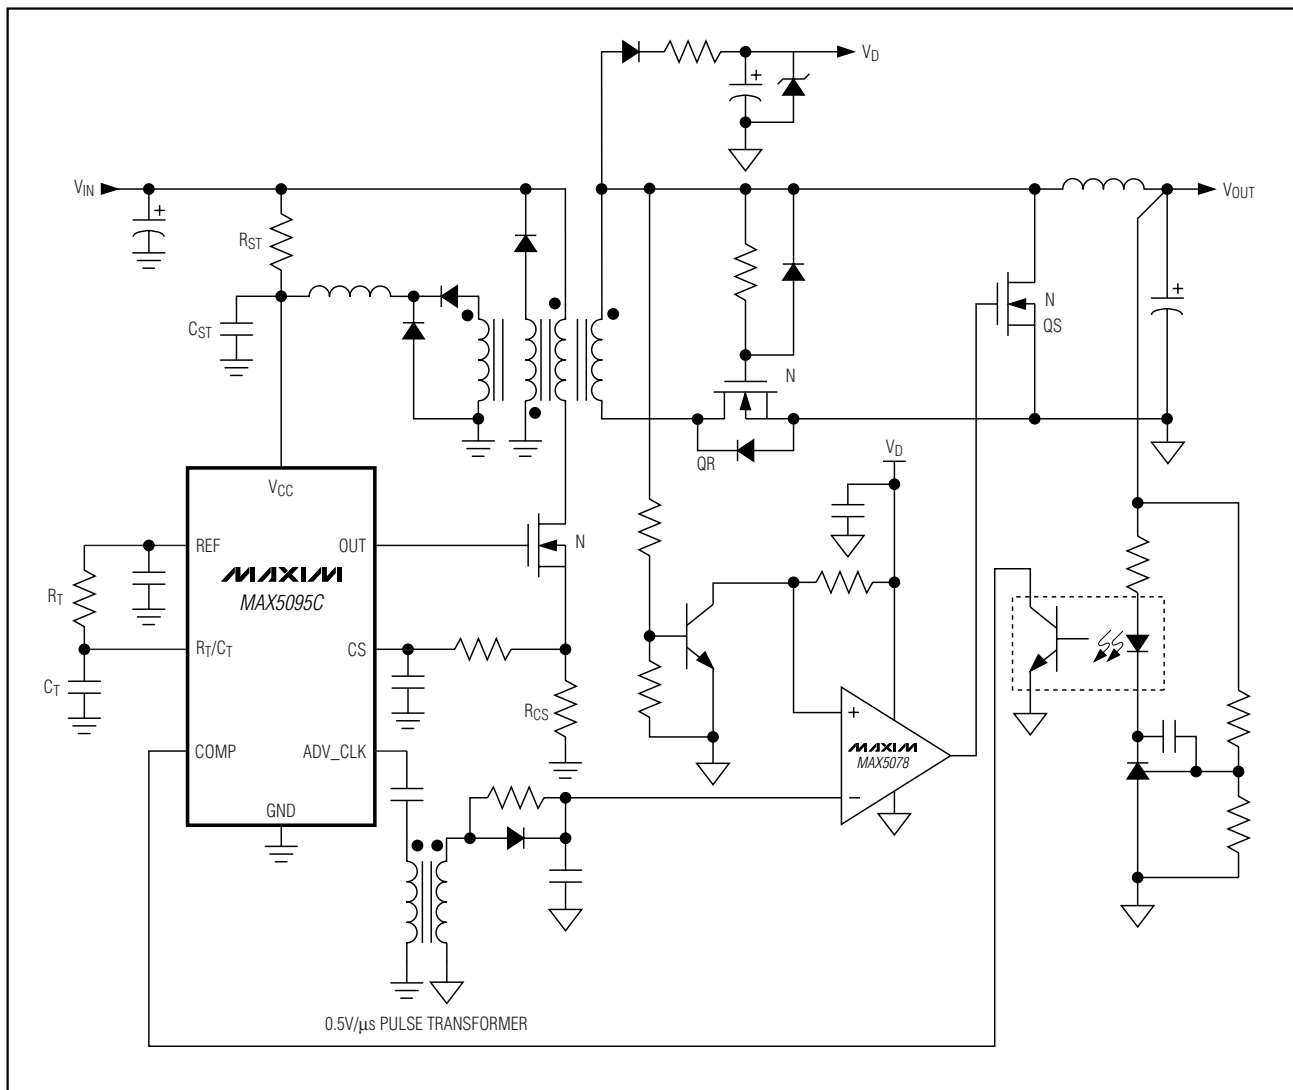

Figure 8. MAX5095C Typical Application Circuit (Isolated Forward with Secondary-Side Synchronous Rectification)
ADV_CLK is an advanced pulse output provided to facilitate the easy implementation of secondary-side synchronous rectification using the MAX5095C. The ADV_CLK pulse width is 85ns (typically) with its rising edge leading the rising edge of OUT by 110ns. Use this leading pulse to turn off the secondary-side synchronous-rectifier MOSFET (QS) before the voltage appears on the secondary (see Figure 8). Turning off the secondary-side synchronous MOSFET earlier avoids the shorting of the secondary in the forward converter. The ADV_CLK pulse can be propagated to the secondary side using a pulse transformer or high-speed optocoupler. The 85ns pulse, with 3V drive voltage (10mA source), significantly reduces the volt-second requirement of the pulse transformer and the advanced pulse alleviates the need for a high-speed optocoupler.